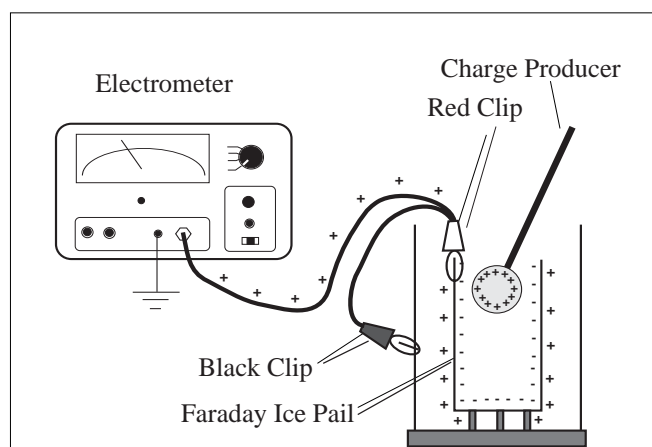

Figure 1
- ① Connect the electrometer input lead (red alligator clip) to the ice pail to create a system for measuring charge. The electrometer ground lead (black alligator clip) attaches to the shield. (Setup is shown in Figure 1.) Adjust the sensitivity of the electrometer so that most readings appear in the upper 2/3 of the scale.